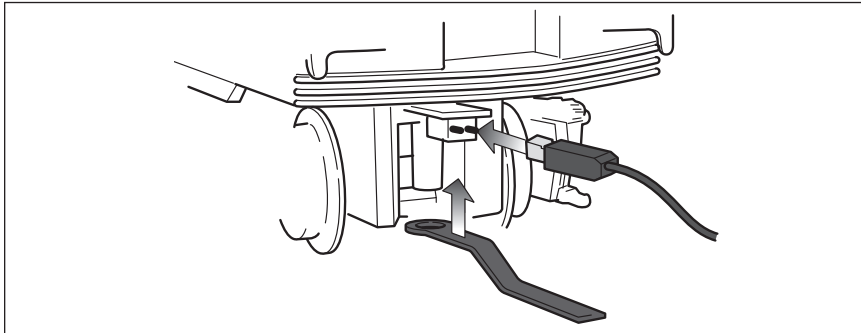

Figure 1. Connections
2. Place your Subway Set on Lionel or Lionel-compatible 0-36 or wider track and connect the drawbar and tether between the cars as illustrated in Figure 1. Note that the tether is 'keyed' and will plug in only one way. Connection is marked "UP" for clear identification.
2. Place your Subway Set on Lionel or Lionel-compatible 0-36 or wider track and connect the drawbar and tether between the cars as illustrated in Figure 1 on page 4. Note that the tether is 'keyed' and will plug in only one way. Connection is marked "UP" for clear identification.
1. Place your Subway on Lionel or Lionel-compatible 0-36 or wider track and connect the drawbar and tether between the cars as illustrated in Figure 1 on page 4. Note that the tether is 'keyed' and will plug in only one way. Connection is marked "UP" for clear identification.
2. Power your Subway Set at 12-18 volts with your alternating current (AC) transformer.